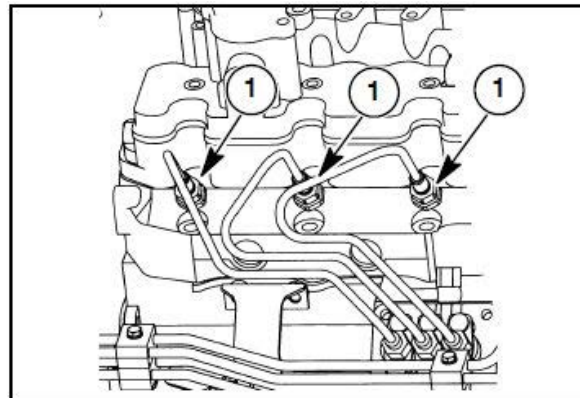

Figure 3-11
1. Loosen the injector line fittings (1) in Figure 3-11, at the injectors.